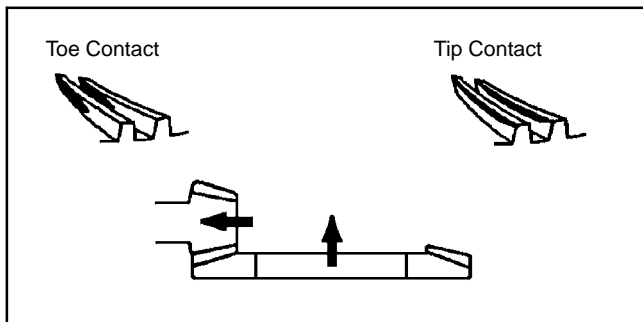

Figure 47
2. If contact is toward the toe or tip of the gear (Fig. 47):